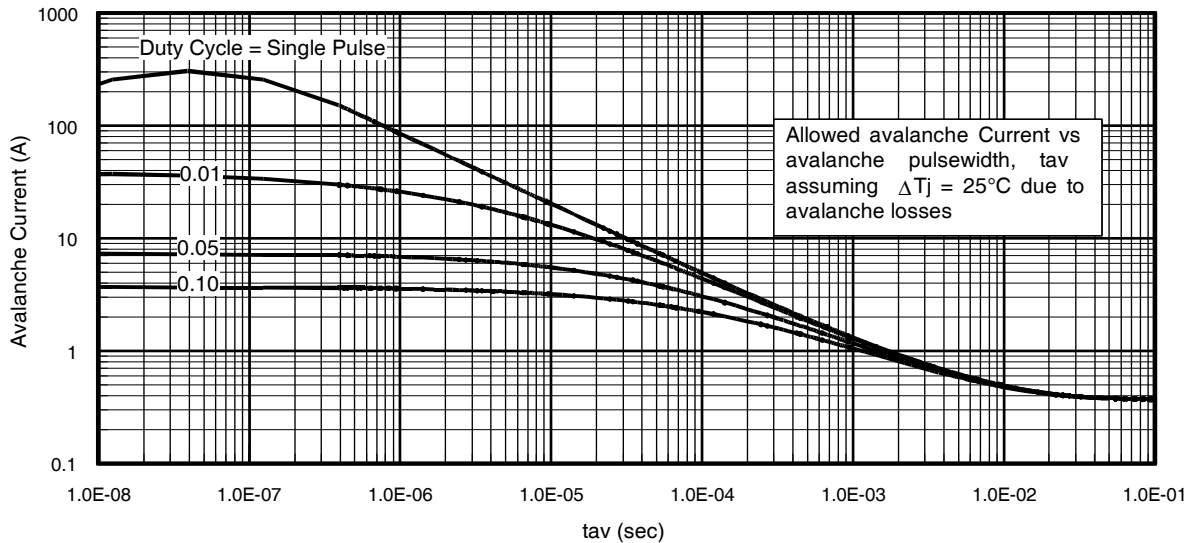

Fig 15. Typical Avalanche Current vs. Pulsewidth
Notes on Repetitive Avalanche Curves , Figures 15, 16:
7. ΔT = Allowable rise in junction temperature, not to exceed T_{jmax} (assumed as 25°C in Figure 15, 16).